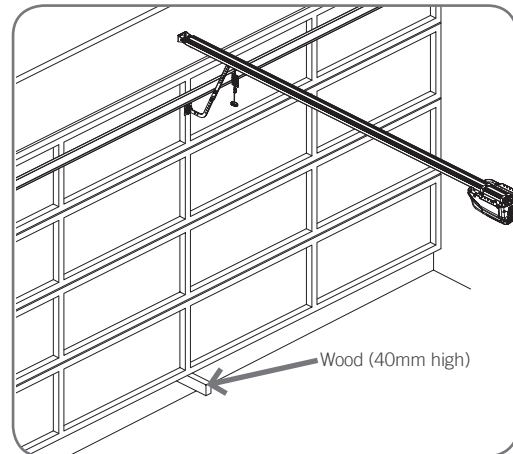

Fig. 28
- Place a piece of timber approximately 40mm high on the floor directly under the door (**Fig. 28**).